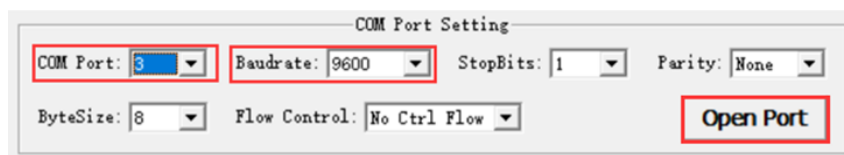
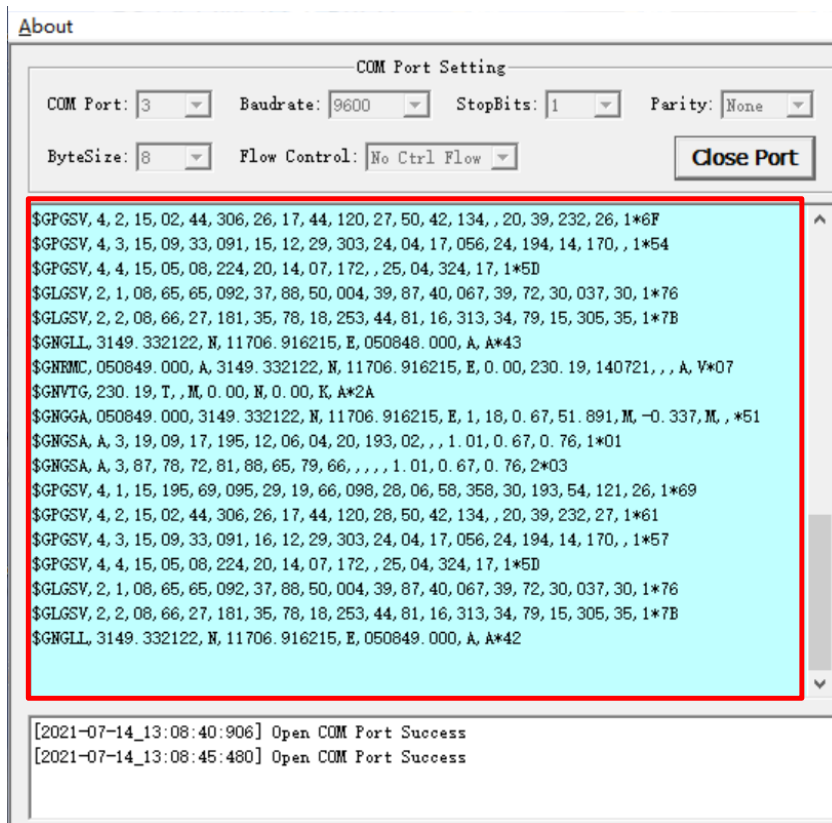

Figure 5: COM Port Setting Interface of QCOM
Figure 6: NMEA Sentences Output by Module – Displayed on QCOM Tool Interface
Step 8: Click “Open Port” as shown in **Figure 5** above, then the communication with EVB is established successfully. In this case, the NMEA sentences output by the module will be displayed through the QCOM tool, as shown in **Figure 6** below. For more information about QCOM usage, see **document [1]**.